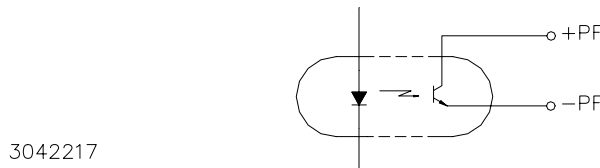

FIGURE 6. LOGIC ALARM OPTICAL COUPLER OUTPUT
6. Output voltage adjustment terminal (RV) - This terminal is used for remotely controlling output voltage (see PAR. 3.2).
7. Current balance terminal (CB) - This terminal is used when several power supplies are connected in parallel (see PAR. 5.3).
8. Power failure terminal (+PF, -PF) - These terminals output an open mode signal if output voltage drops to 80 % or lower of a set voltage, or if output voltage is shut down due to over-voltage or overcurrent protection, fan speed insufficient, or overheating. (see Figure 6).
If the Power Supply shuts down due to an increase in internal temperature, the restart cycle (Power ON) should not begin until the temperature returns to within specifications. The alarm circuit is a diode transistor optical coupler. The transistor is normally conducting. When the alarm is activated, the transistor cuts off and the collector emitter circuit is open (see Figure 6).